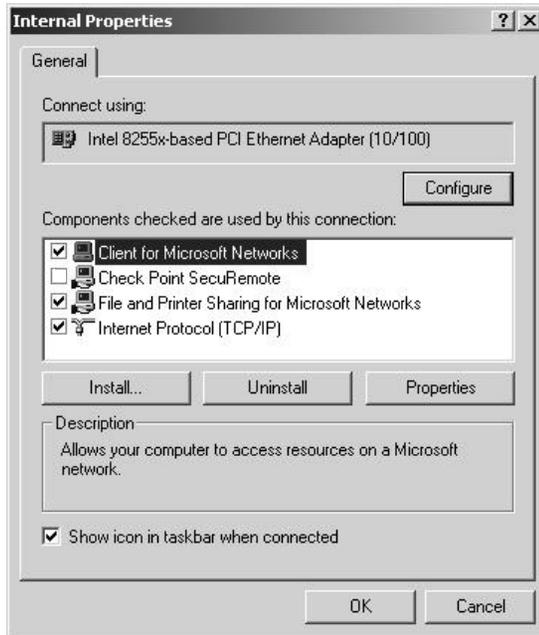

Figure 1.5 Internal Properties Window
**1B.** Once the Properties window opens (Figure 1.5), click on Internet Protocol (TCP/IP).